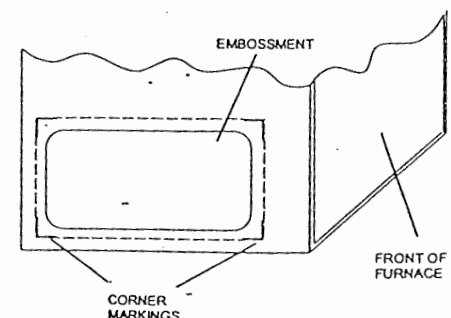

FIGURE 1 - SIDE RETURN CUTOUT MARKINGS
2. Side Return - Cut a hole in the side panel of the furnace using the right-angle markings (See Figure 1) as a guide for position and size of the opening. Install a single side return filter frame accessory if one is required. If this accessory is not needed, the ductwork can be fastened directly to the furnace opening.